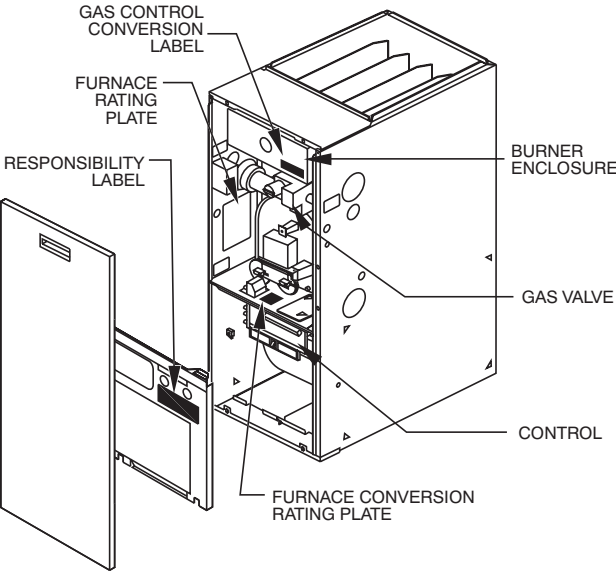

Fig. 49 - Condensing Furnace Label Location
NOTE: See Fig. 49 for label location.
2. Attach appropriate Conversion Rating Plate Label 334263-201 or 334263-206, (see Fig. 49) on blower shelf as shown.